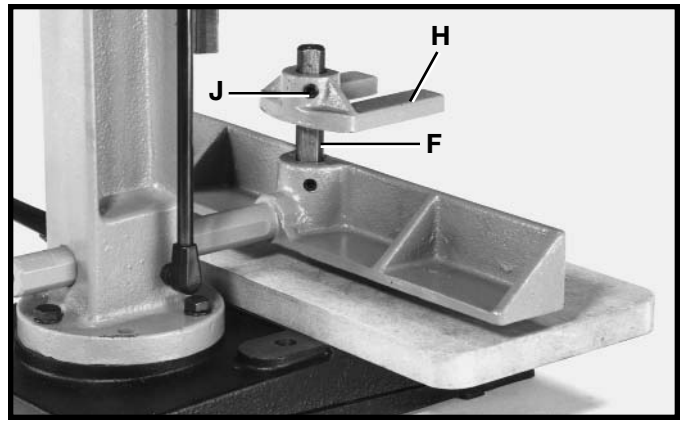

Fig. 13
7. Assemble the holddown (H) Fig. 13, onto bar (F) as shown, and tighten set screw (J) against flat on bar.